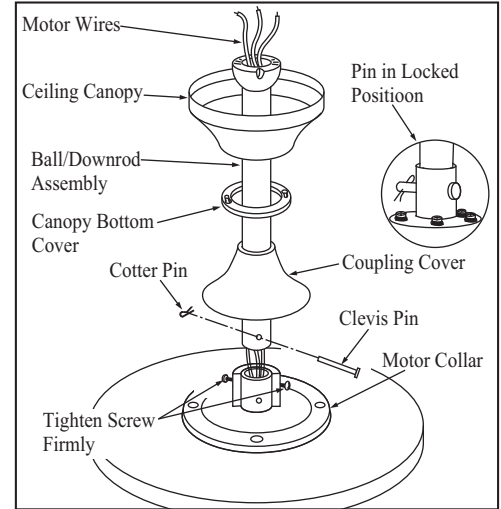

Figure 5
3. Remove the clevis pin, cotter pin and set screws from the top of the motor assembly. (Figure 5)
4. Route wires exiting from the top of the fan motor through the coupling cover, canopy cover, canopy and then through the ball/downrod. (Figure 5)
5. Align the holes at the bottom of the downrod with the holes in the coupling on top of the motor housing (Figure 5). Carefully insert the clevis pin through the holes in the collar and downrod. Be careful not to jam the clevis pin against the wiring inside the downrod. Insert the cotter pin through the hole near the end of the clevis pin until it snaps into its locked position, as noted in the circle inset of Fig. 5.
6. Tighten two set screws at top of the fan motor collar firmly and evenly. (Fig. 5)